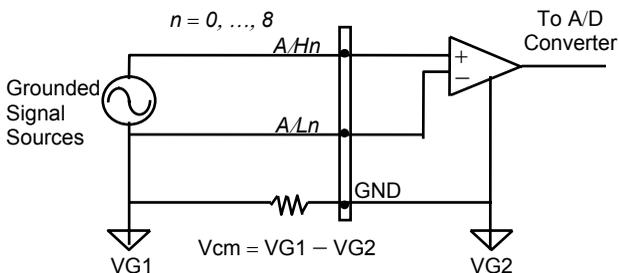

Figure 8. Grounded source and differential input
Differential input (DI) mode means the voltage of the signal to be measured is a pair of signals, for example, AI3L and AI3H is a differential pair. The AD circuit measures the voltage difference between the differential pair. Common mode noise can be reduced under this mode. Note that the differential signal pair must have a common ground. Figure 8 illustrates a differential analog signal input connection. By using differential input mode, the common mode noise on AIHn and AILn is reduced.